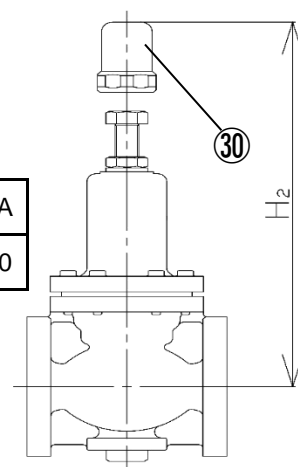

Fig. 9
- (14) To maintain easily, install a drainpipe between stop valve and primary pressure regulating valve.
- (15) Above the center of the pipe line, be sure to reserve space larger than H_2 (Fig.9). Please see the Table 7.